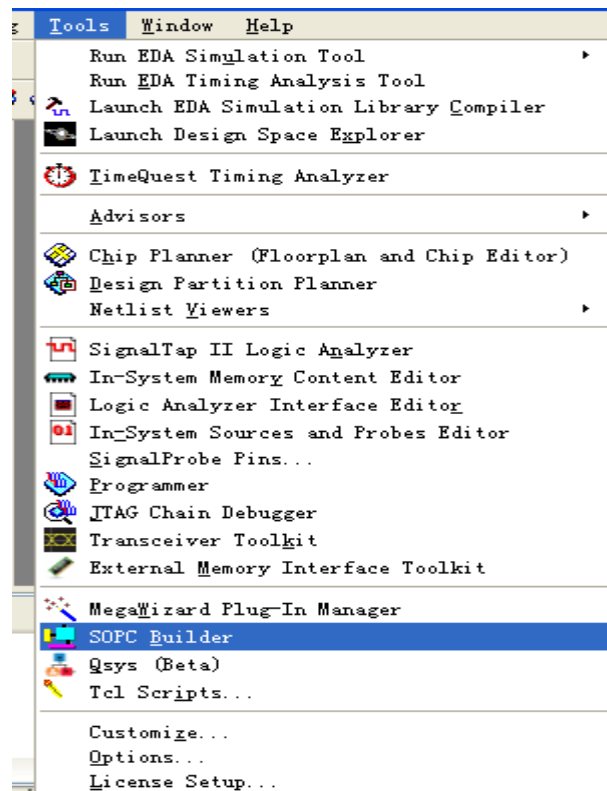
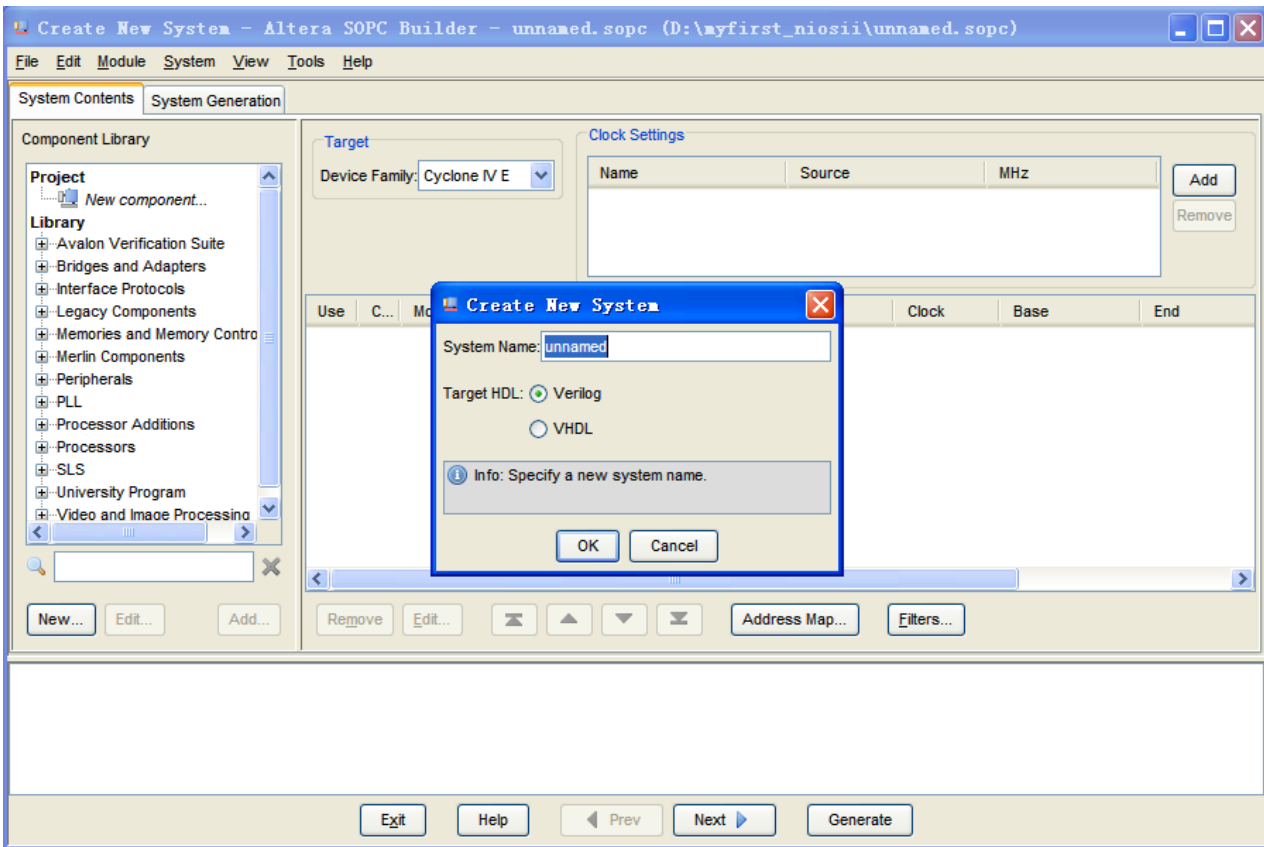

Figure 7-9 SOPC Builder Menu
Figure 7-10 Create New SOPC System [0]
5. Choose **Tools > SOPC Builder** to open new SOPC system wizard .See Figure 7-9 and Figure 7-10.